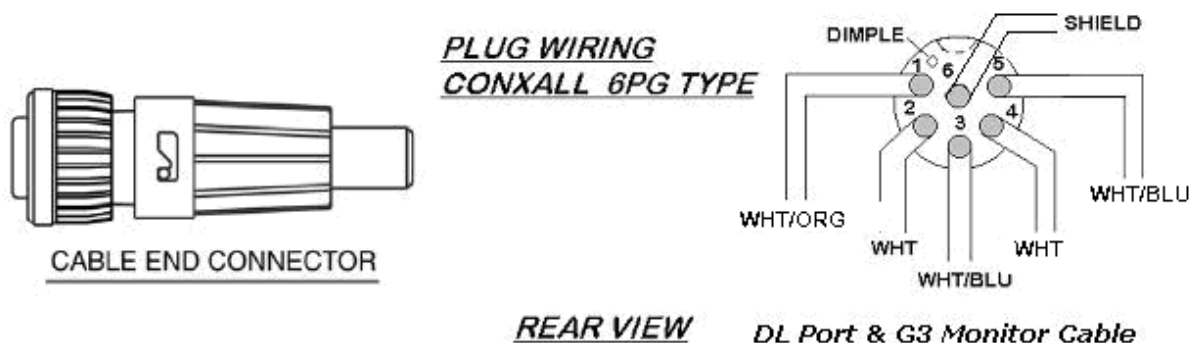

Figure B- 15: Download Port Connector to GEN III Monitor – ADAS+ Upgrade
- ❑ 020 Refer to the illustration Figure B- 15 and connect the cable to the included ConXall™ connector using the socket configuration shown. Splice a short wire lead to the cable shields on both the DL PORT “AAB49B24” and G3 MONITOR “AAB28C24” cables with a shrink-on solder sleeve to make the Pin 6 shield connection.